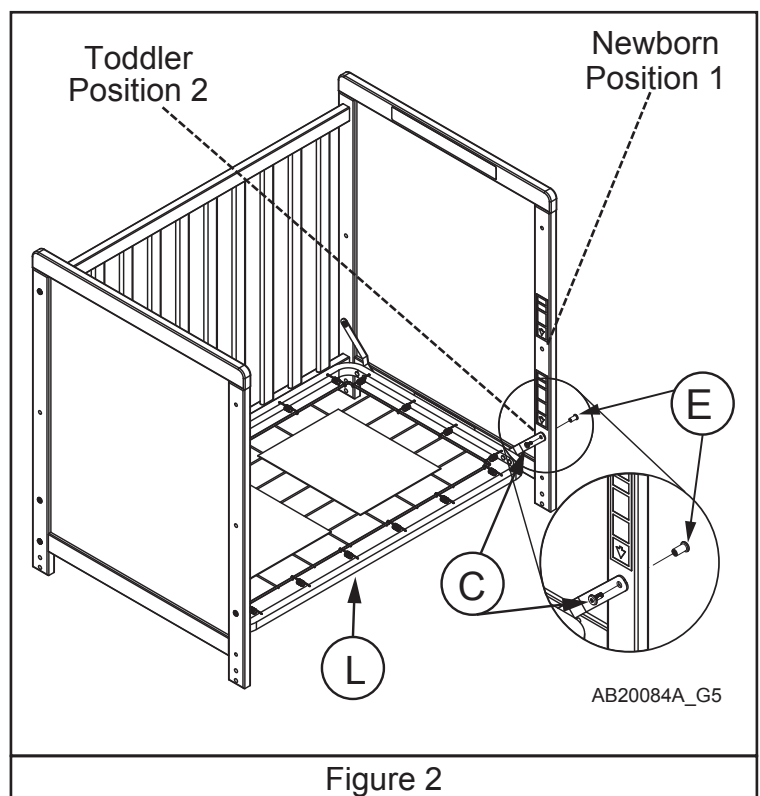

Figure 2
To adjust the height of the Spring (L), unthread the Allen Bolts (C) and move the Spring (L) to the other height shown in Figure 2. Then follow the above process to attach Spring (L) to the new location.
See Figure 2.